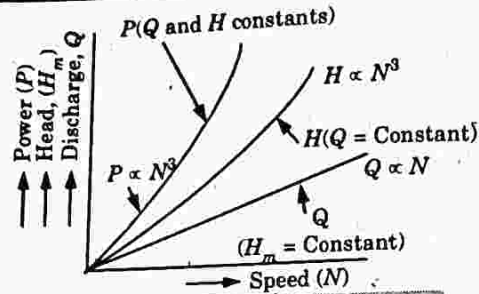

Fig. 4.25.1. Main characteristics curves.
- iv. Fig. 4.25.1 shows main characteristic curves of a pump.